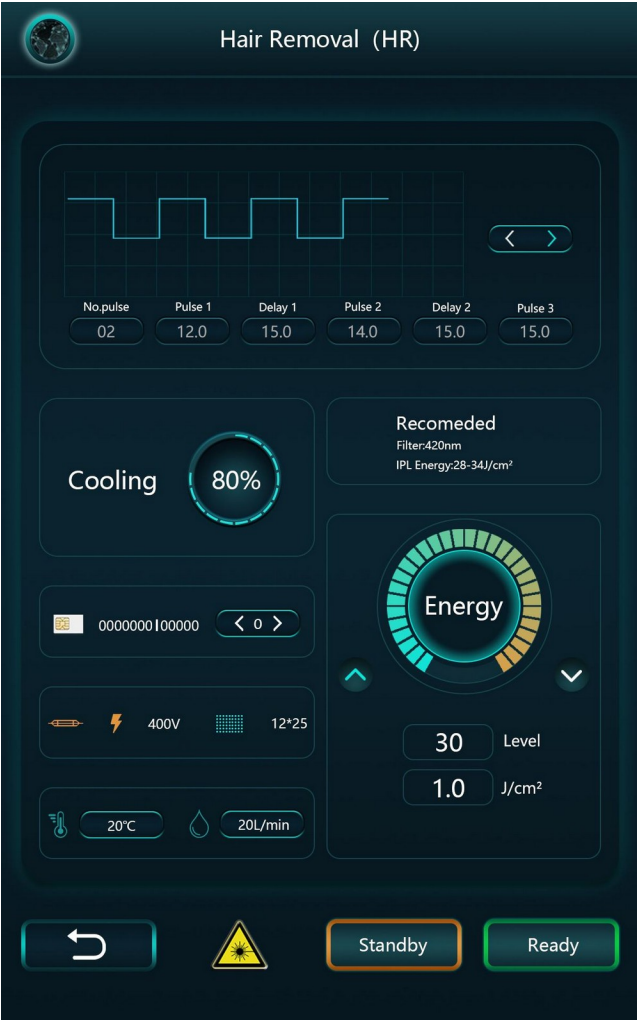

Figure 5.6
2) In Standard Mode, choose the hair density, hair color, and hair thickness, then go to Standard Mode (HR) (see Figure 5.19); the system will recommend all parameter settings, as well as the filter and energy level settings. The filter type in use and the treatment spot size are also displayed on the screen. You are only allowed to adjust the energy and cooling levels. Once you press "Ready," the system will stop blinking the "Recommended" icon (see Figure 5.6).